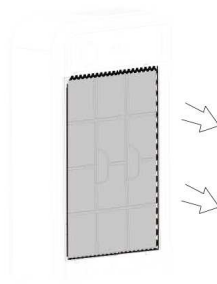

Fig. 2
3. Remove the prefilter (2). The prefilter is held with 6 snap fasteners (Fig. 2).